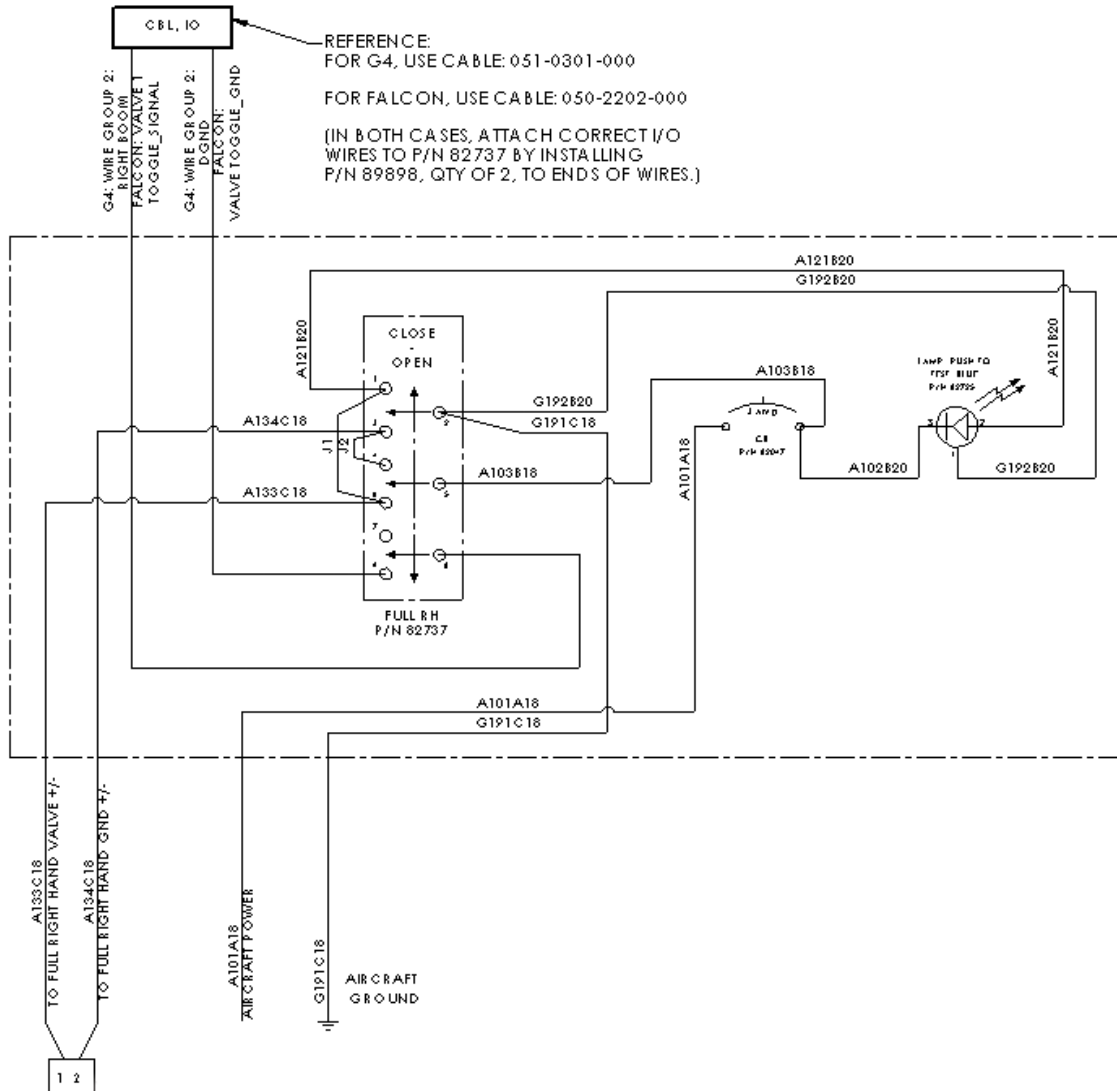

Figure 4-1: Wiring Schematic for the Satloc G4 and Satloc Falcon to wire PN 25053 - Right-Hand Boom Shut-Off Control Panel to GPS System
- If the Transland Boom-Shut Control Panel is not installed, choose a mounting location in the cockpit for item 16 (PN 25053). The optimal position to mount item 16 is the cockpit wall on the left-hand side. Ensure all cockpit switches are easily accessible to the pilot and there is room for wiring.
- If using only the Right-Hand Boom Shut-Off, refer to Figure 4-1.
- Crimp ring terminals (PN 89898) to the wires on the IO cable, as shown on Figure 4-1.
- Connect ring terminals to the full right-hand switch (PN 82737, a sub-component of part 16) as shown on Figure 4-1.
18. Install the male and female housing to the ends of the ran wire according to Figure 4-1. Items 3, 4, and 5 are for male housing. Items 6, 7, and 8 are for female housing.
19. Crimp pins and sockets to the correct wire ends as shown in Figure 4-1. Use CP-463 or equivalent crimp tooling.